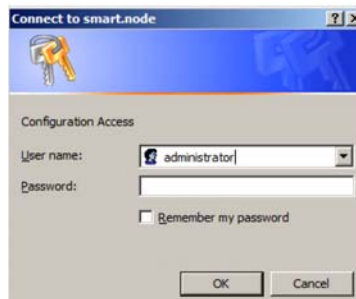

Figure 11. Login window
3. Enter the username *administrator*. Do not enter a password. Instead simply click OK. Your web browser will display the SmartNode home page (see Figure 11).